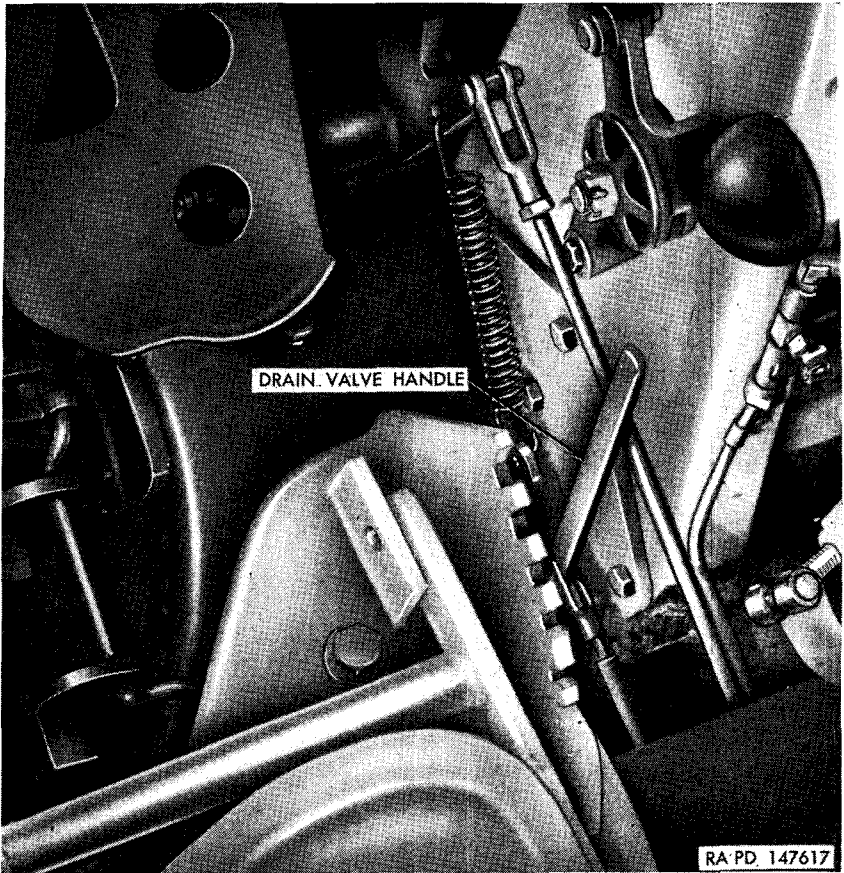

Figure 17. Drain valve handle—engine compartment.
c. ENGINE COMPARTMENT DRAIN VALVE. There are three engine compartment drain valves: left front, right front, and rear. One spring-loaded handle (fig. 17), located on the driver's right side below the throttle control lever, operates the three valves. To drain the engine compartment of fluid, pull back on the handle and engage it in the hold-open position by inserting the handle in the slot on the left of the handle support. To close the valve, release the handle from the hold-open slot.